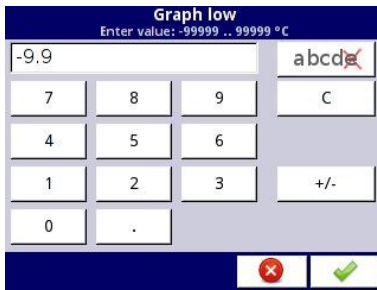

Fig. 7.5. Value editor – decimal form
- decimal form, see **Fig. 7.5**,